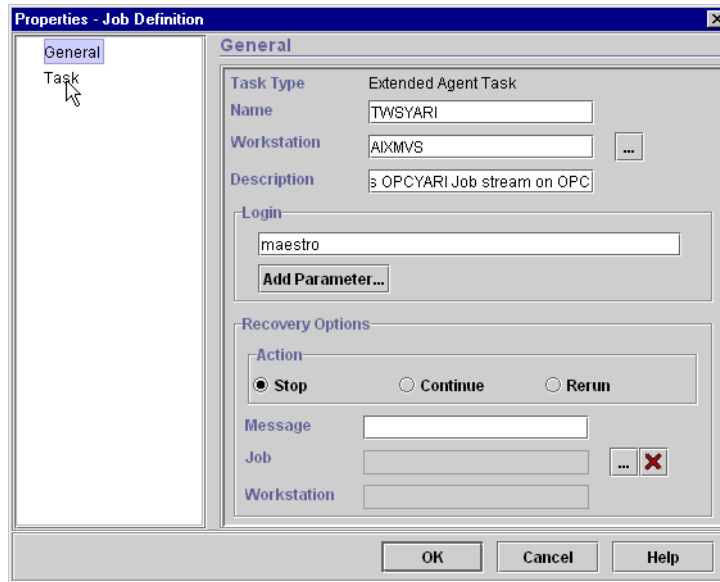
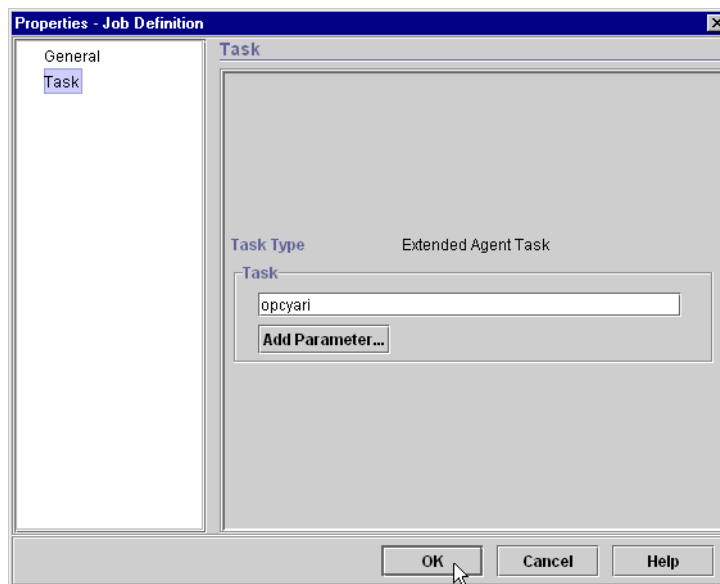

Figure 145. Create new TWS job with MVSOPC method
Figure 146. Enter OPC Job Stream (Application) name
4. Create an X/AGENT Workstation on TWS. Use the access method, MVSOPC. See Figure 144 on page 227 and Figure 145 on page 228.
5. Create a TWS job call that submits the OPC Job Stream, OPCYARI, as shown in Figure 145 on page 228 and Figure 146 on page 228.